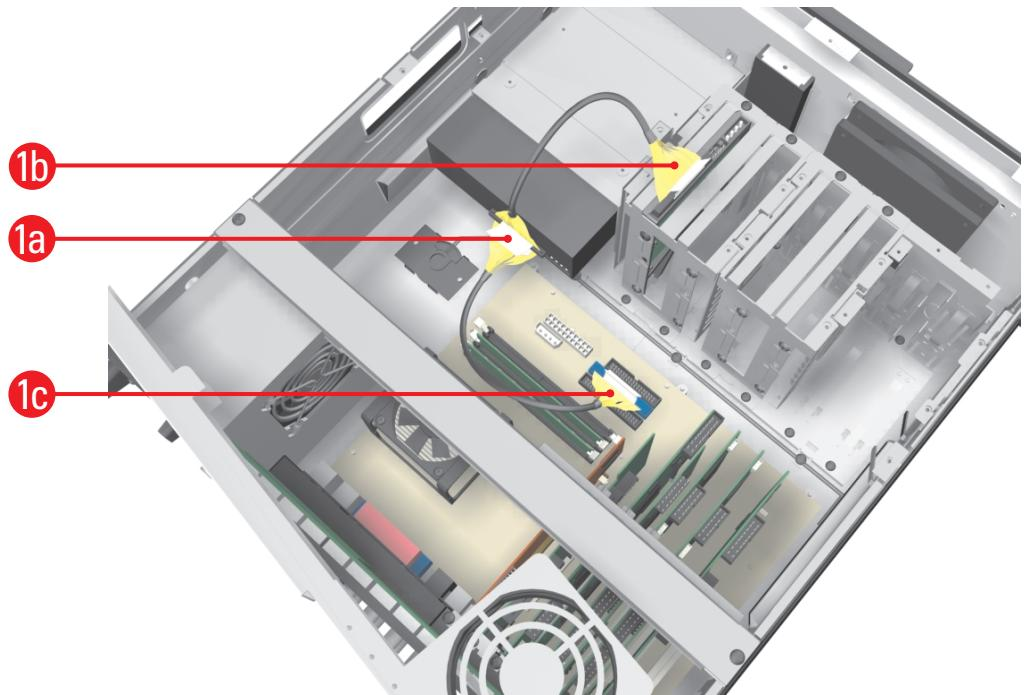

Figure 16. Installing CD-RW and Hard Drive Data Cable
- a. Connect the *gray* connector of the data cable that came with your DX8000 to the CD-RW drive as illustrated in Figure 16.
- b. Connect the *black* connector of the data cable to the newly installed hard drive. Refer to Figure 16.
- c. Connect the *blue* connector of the data cable to the primary (*blue*) IDE connector on the system motherboard. Refer to Figure 16.